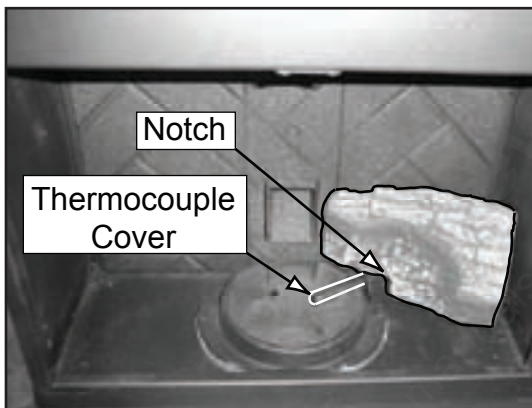

Figure 20.1
1. Place the right rear log as shown. There is a notch in the bottom of the log for clearance for the thermocouple and thermocouple cover (ceramic protection tube). **Figure 20.1.**